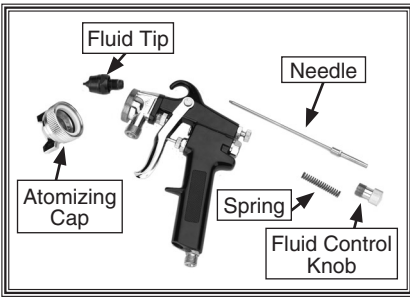

Figure 17. Disassembly for cleaning.
8. Unscrew the atomizing cap with your fingers and the fluid tip with the service wrench. The fully disassembled gun should look like **Figure 17**.